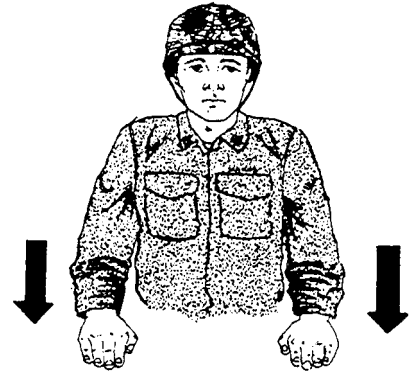

Figure 11-32.—To direct helicopter to land.
4. To Direct Helicopter to Land. Bend your arms at the elbows with your lower arms held parallel to the ground at waist level. Keep palms facing downward parallel to the ground, and forearms moving to simulate a downward pushing motion. (See fig. 11-32.)